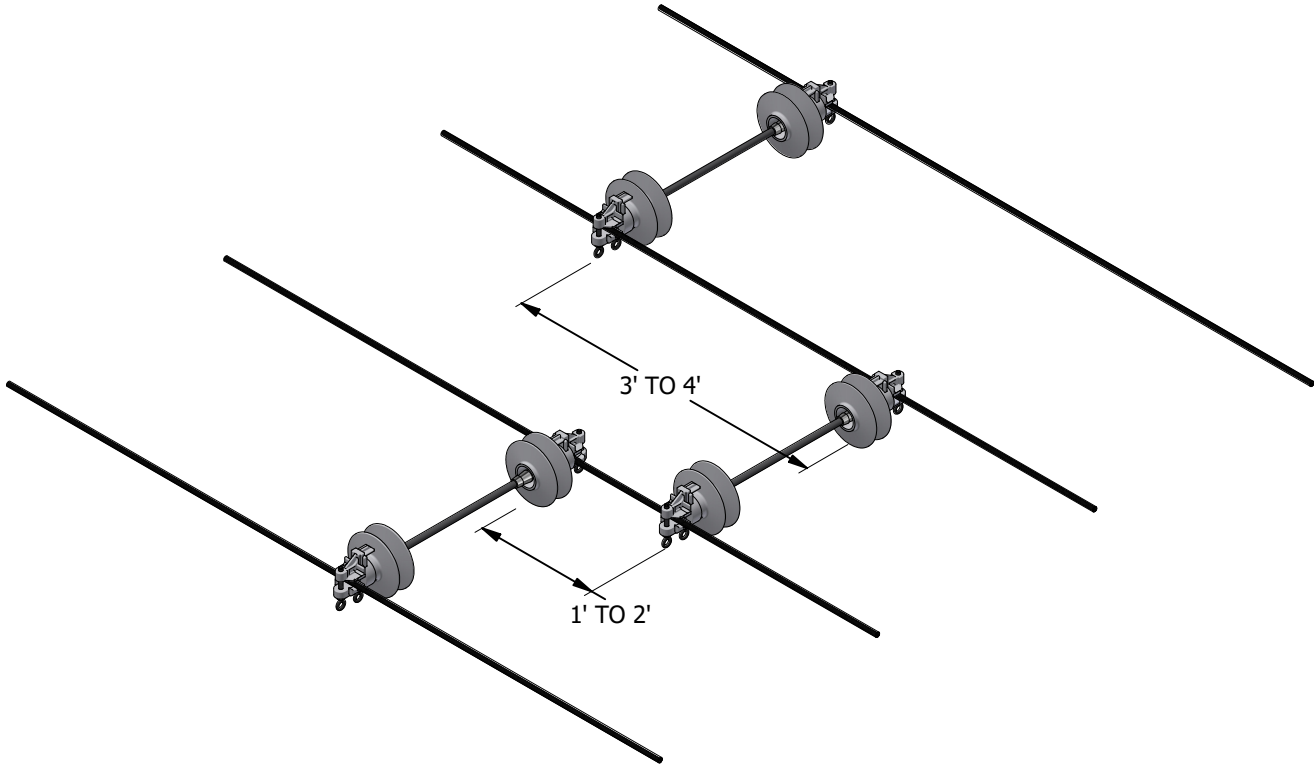

FIGURE 4
- (A) FOR THREE WIRE LOCATIONS, ONLY ONE SPACER IS NEEDED FOR THE TWO OUTER MOST PHASES AS DEPICTED IN FIGURE 3. FOR FOUR WIRE LOCATIONS, INSTALL THREE SPACERS AND STAGGER THEM AS DEPICTED IN FIGURE 4.
- (B) THE POLY VISE-TOP IS THE ONLY APPROVED INSULATOR FOR THIS APPLICATION.
- (C) IF BUCKET TRUCK ACCESS TO THE MID-SPAN IS NOT POSSIBLE, TWO OPTIONS REMAIN: